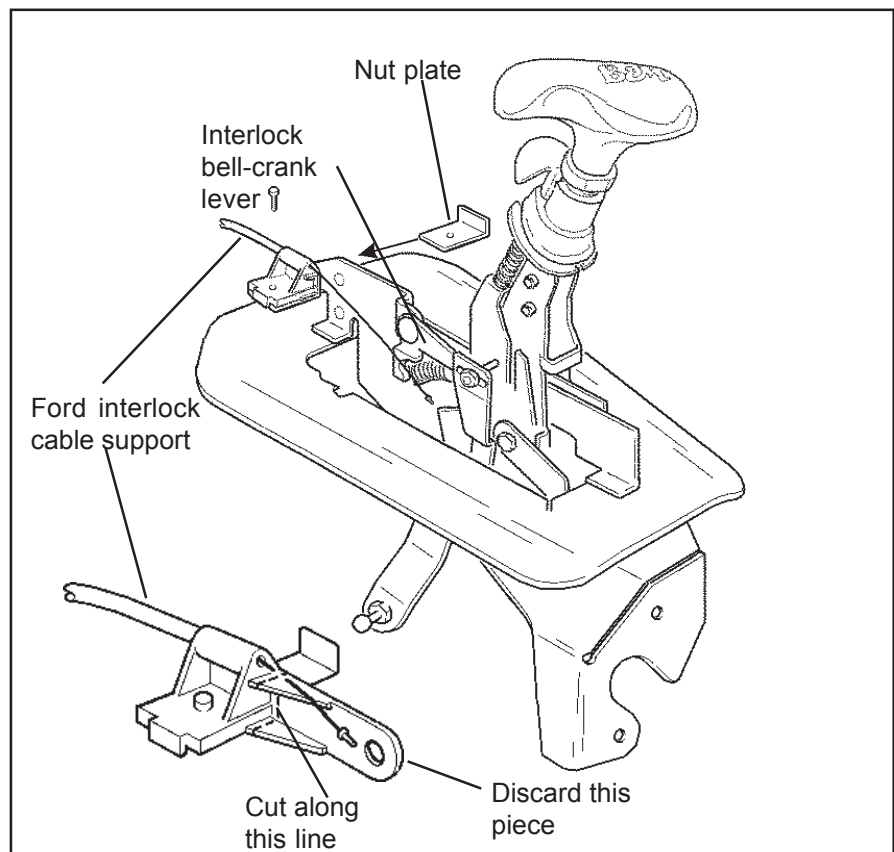

Figure 2
STEP 6. Turn the ignition key to the unlocked position, one notch clockwise from the locked position, and put the shifter into Park position before installing the interlock cable. Cut the end off of the plastic interlock cable support as shown in **figure 2**. Slip the end of the center wire of the interlock cable into the slot in the interlock bell crank. Attach the cable housing to the base of the shifter using the supplied socket head 10-24 x 1/2" screw and nut plate. See **figure 2**. Do not tighten the screw all the way, leave it loose enough so that cable will slide back and forth in the slot.